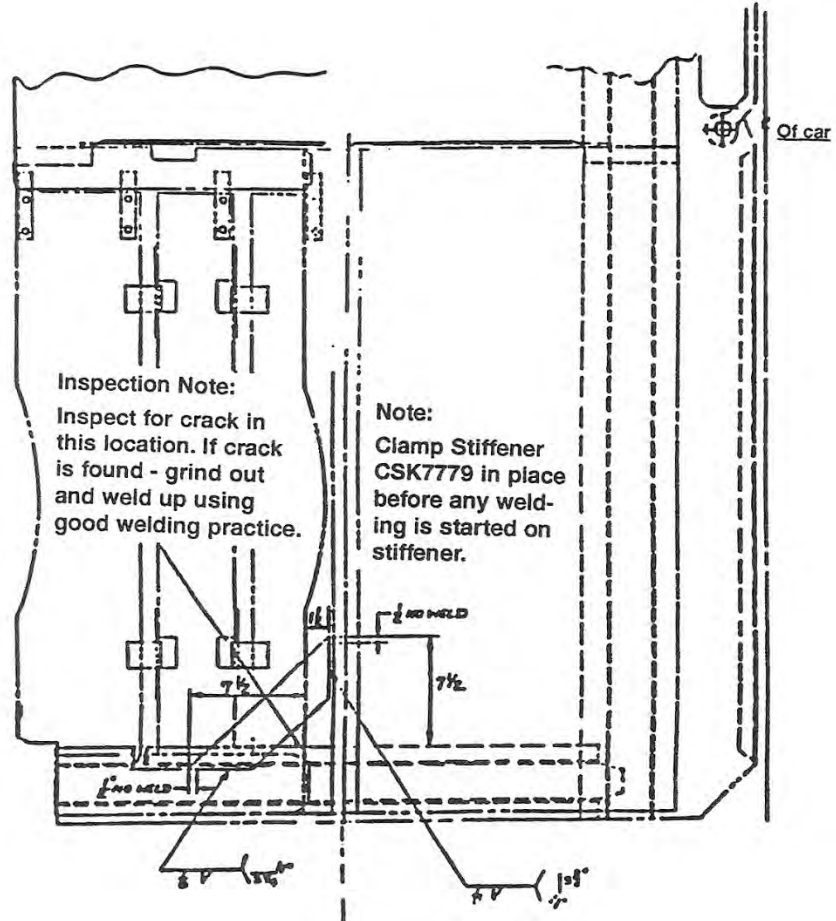

Figure 24
3. If no crack is found, apply a new stiffener (CSK7779) as shown in Figure 24.